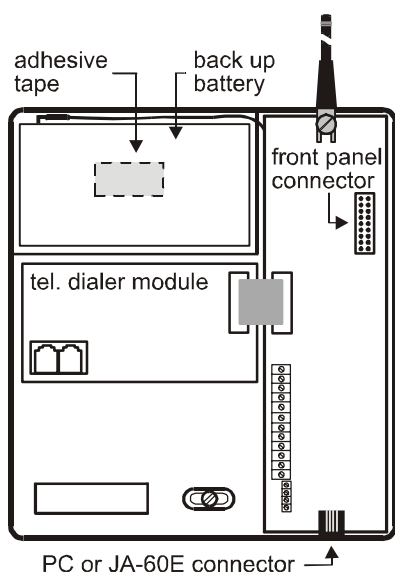

Fig.5
- Remove the covering folio from the adhesive tape inside the battery compartment (see fig. 5),